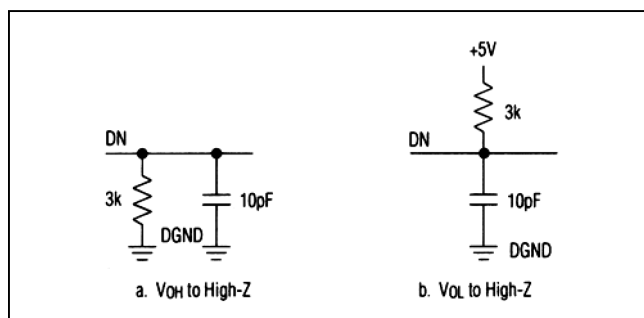

Figure 2. Load Circuits for Bus-Relinquish Time
**Note 5:**  $t_7$  is defined as the time required for the data lines to change 0.5V when loaded with the circuit of Figure 2.